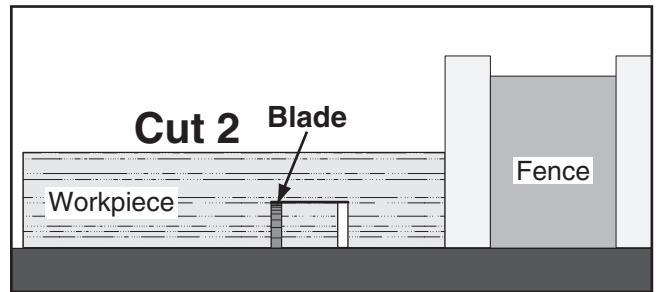

Figure 125. Second cut for a single-blade dado.
7. Repeat cutting operation on other side of dado channel, as shown in **Figure 125**.